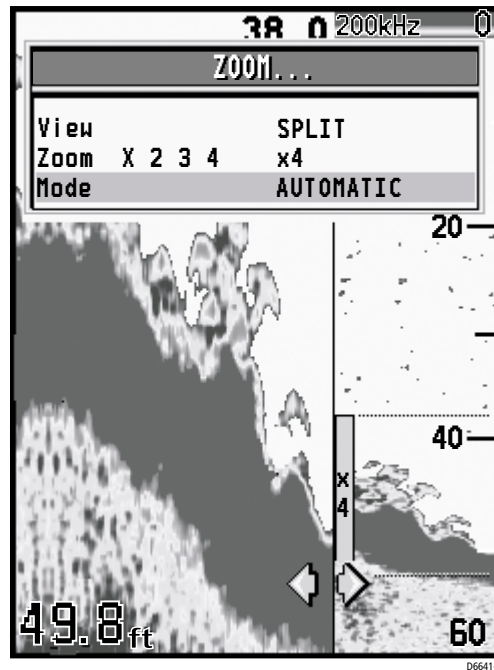

Figure 4-3: Zoom with Split Screen
- SPLIT means the display is split vertically, with the zoom image in the left hand window and the scrolling bottom display in the right hand window. See *Figure 4-3*.